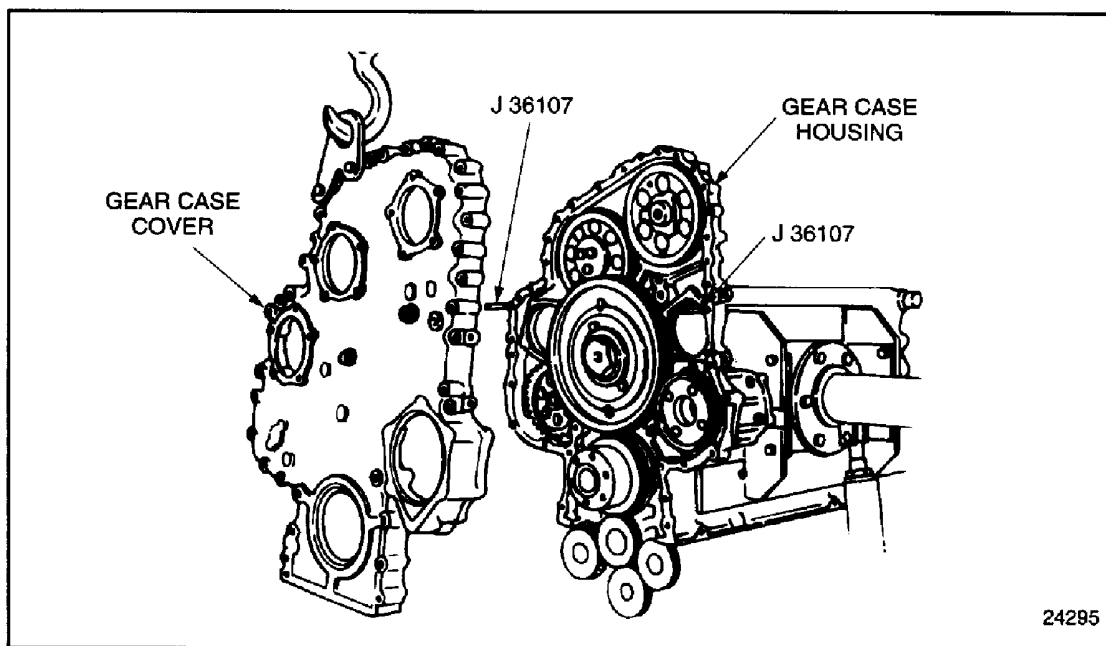

Figure 1-160 Gear Case Cover Locating Dowels
2. Install two guide studs, J 36107, to the gear case. See Figure 1-160.
3. Support the gear case cover with a suitable lifting device, using the front engine lift bracket. Position the gear case cover on the guide studs and slide it forward. Index the two dowels in the gear case. See Figure 1-160.